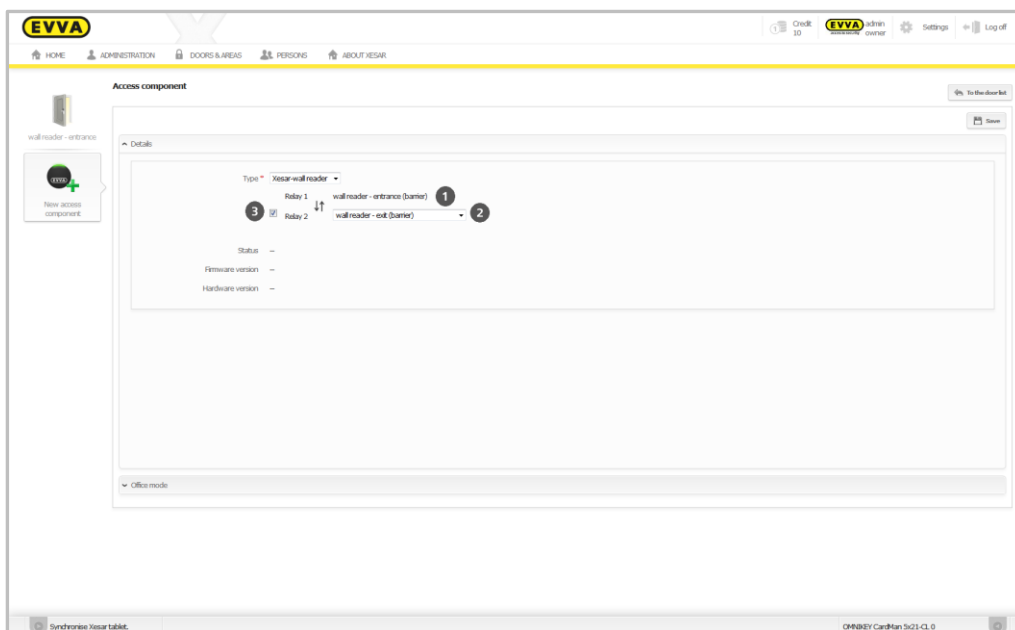

Figure 79: Connecting Xesar wall readers
- **Relay 1**  (Figure 79: Connecting Xesar wall readers) is automatically assigned to the wall reader.
- Click **New access component** ③ and select the Xesar wall reader from the drop-down list after having created the second door.
- **Relay 1** ① (Figure 79: Connecting Xesar wall readers) is automatically assigned to the wall reader.
- Tick the check box as shown in ③ (Figure 79: Connecting Xesar wall readers).
- Select a different, newly created door from the drop-down list in the ② section. This automatically assigns a second wall reader to the selected door and the wall reader icon changes from  (icon-> one wall reader) to  (icon -> two Xesar wall readers).